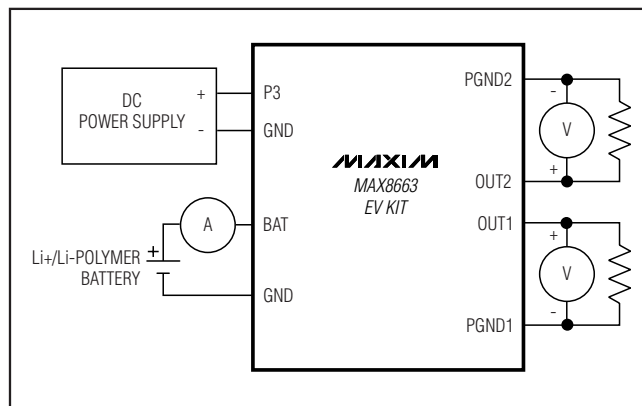

Figure 1. Test Procedure Setup (Caution: Do Not Exceed 5.5V at  $V_L$ )
- 11) Make connections to the EV kit as shown in Figure 1, except do not connect the battery until step 16.